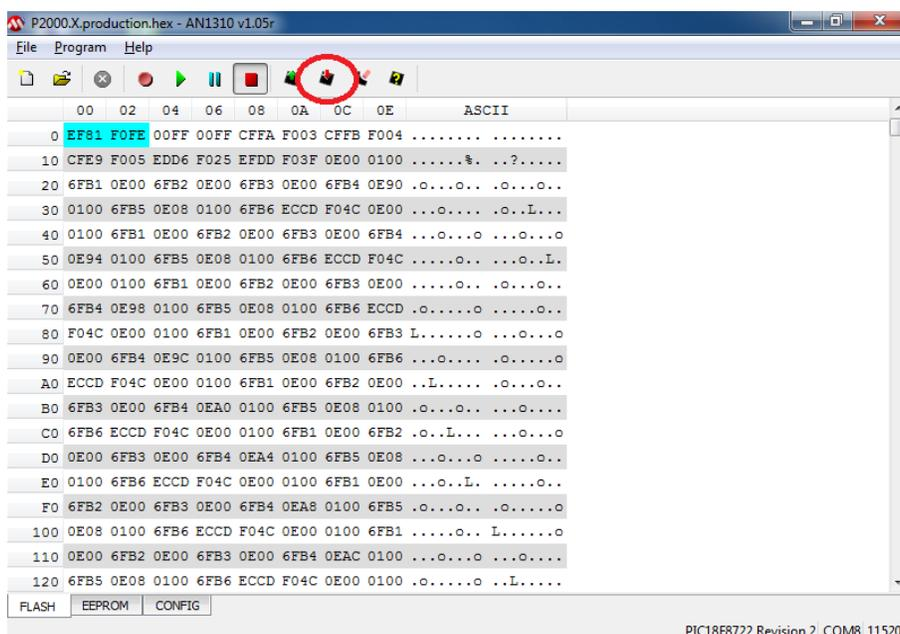

Figure 3.19
- 9. The bootloader screen will show new hexadecimal values. Click the **Write Device** button (Figure 3.19).